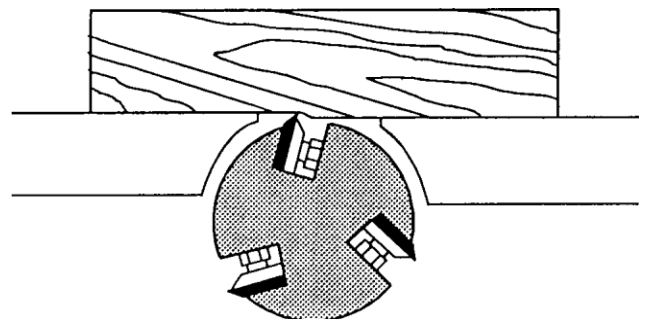

Fig. 18
6. Turn on machine and run a piece of wood over the cutterhead for 6 to 8 inches. The stock should rest firmly on both tables with no space under the finished cut as shown in Figure 18.